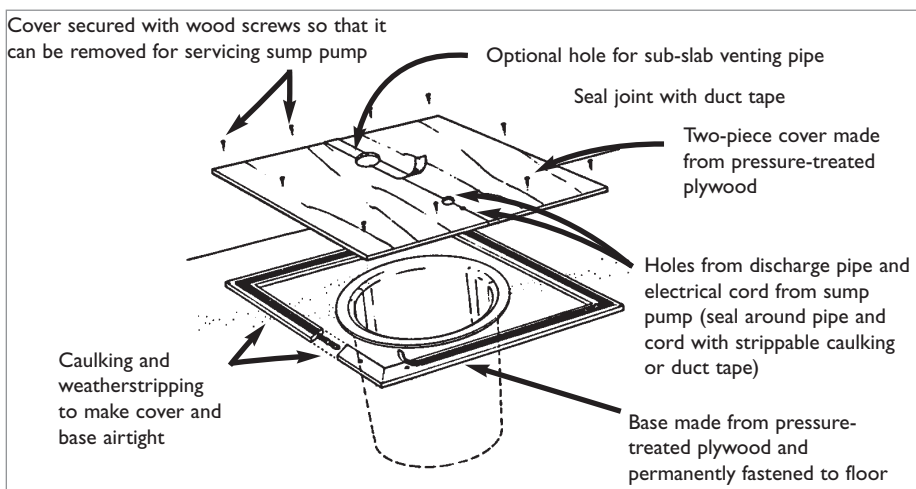

Figure 8: Sealing open sumps
- **Open sumps** – Sumps can be fitted with an airtight cover (*see figure 8*). If the sump also acts as a floor drain, add a special trap to the airtight cover and slightly recess the cover into the sump.
- Use a sealed lid on the sump. Your builder may either purchase a sealed unit or field fabricate a sealed lid (*refer* to figure 8, page 16). A sealed lid keeps out radon as well as molds, odours, insects and cold drafts. It also reduces the risk of injury to small children.